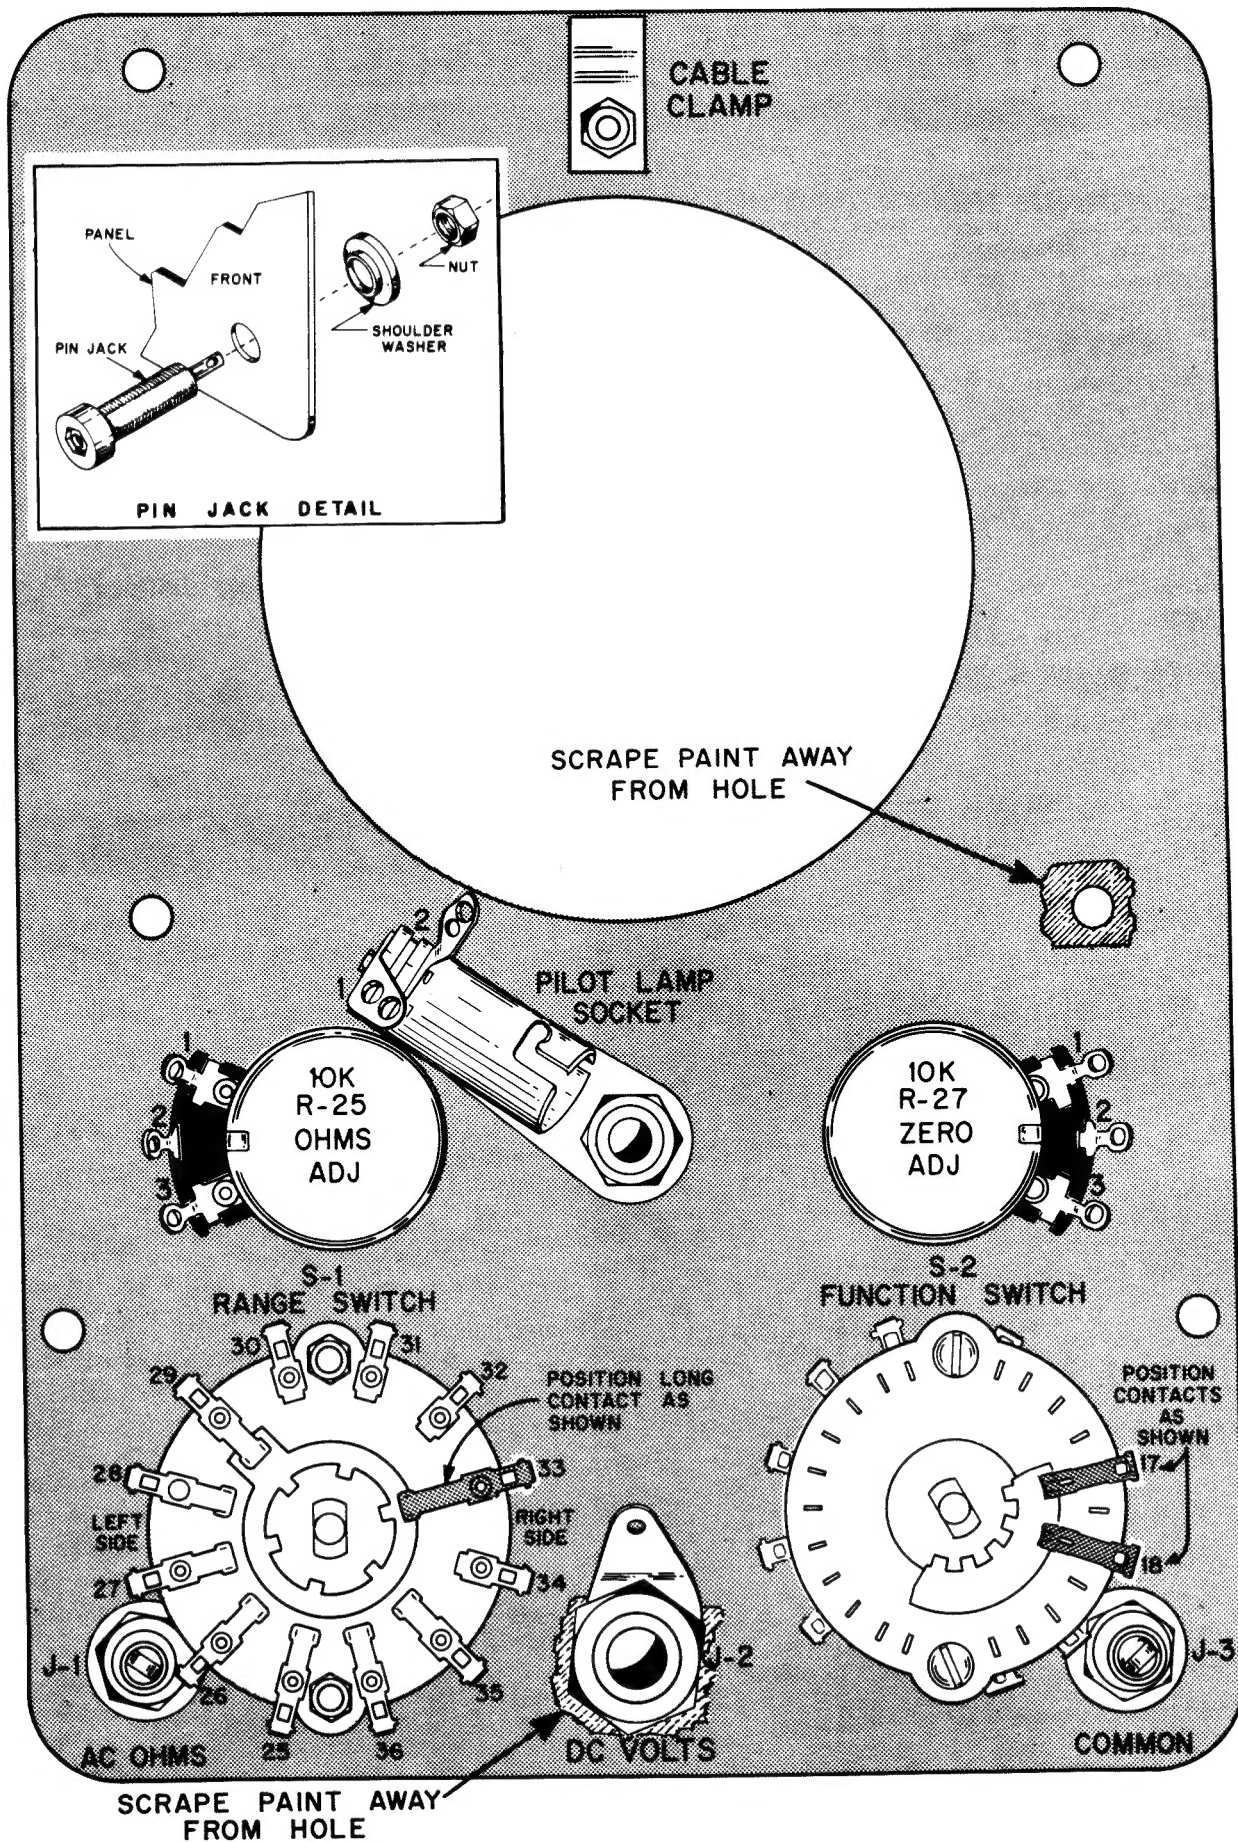

FIGURE 1. MOUNTING THE PARTS ON THE PANEL
### SEE FIGURES 1 AND 2
- ( ) Mount the pilot light socket between R-25 and R-27. The bracket must be positioned as shown in Figure 1, but must not touch R-25.
- ( ) Mount J-1, the red pin jack, in the lower left corner of the panel. Use a shouldered fiber washer on the inside of the panel to insulate the jack from the panel. Now, tighten a nut against the washer. Refer to the pin jack detail in the upper left corner of Figure 1.
- ( ) Mount S-1, the long triple wafer RANGE switch in the hole in the lower left corner of the panel. The long contact on the end wafer must be positioned as shown in Figure 1. The blank space on the wafer near the shaft end must be toward J-1. Use a large nut and a lockwasher on the inside of the panel. Fasten it securely with another large nut. Place a large knob on the shaft. Be sure the line on the knob lines up exactly with the printed dots on the panel. If not, rotate S-1 so the scale on the panel and the line on the knob correspond.